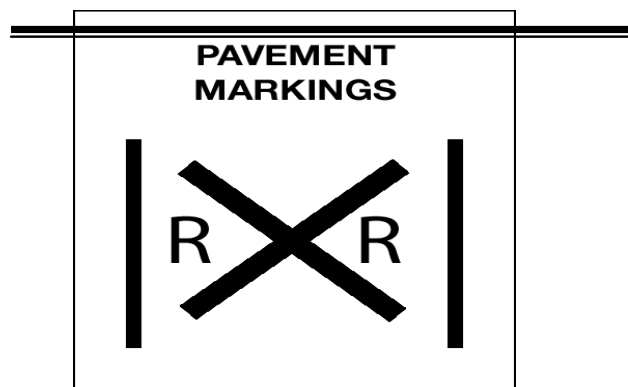

Figure 2.15
**Advance Warning Signs.** The round, black-on-yellow warning sign is placed ahead of a public railroad-highway crossing. The advance warning sign tells you to slow down, look and listen for the train, and be prepared to stop at the tracks if a train is coming. All passenger and hazmat carrying vehicles are required to stop. See Figure 2.15.